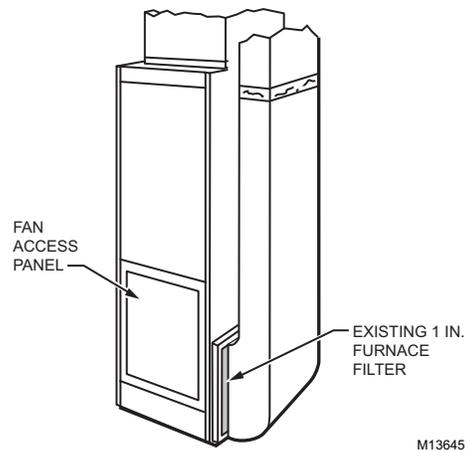

Fig. 15. Typical use of duct offsets to make room for media air cleaner
2. Remove and discard existing furnace filter. See Fig. 15.